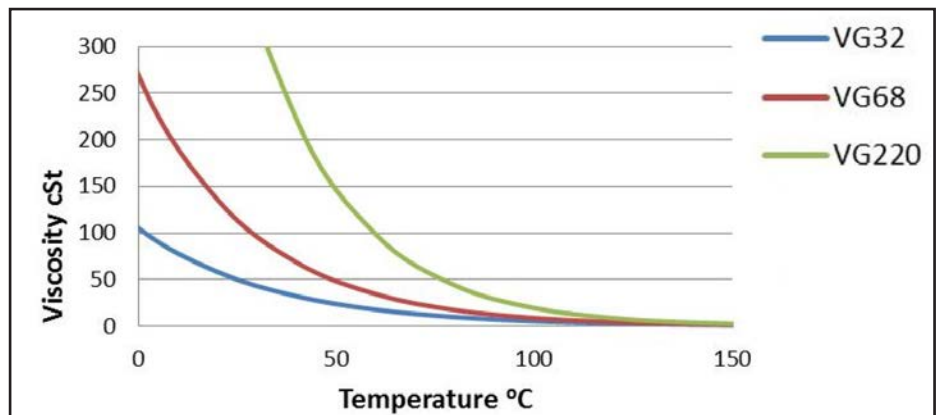

Figure 2 Lubricant viscosity as a function of temperature for VG32, VG68 and VG220 oils.
1. The variation of lubricant viscosity as a function of temperature. Typical curves for standard gearbox oils are shown (Fig. 2).